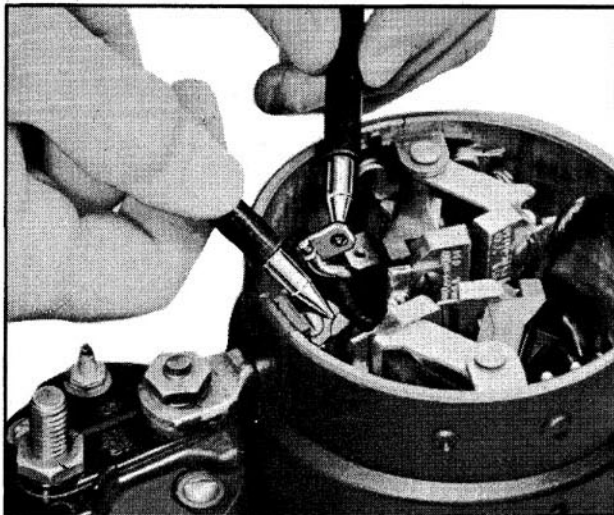

Fig. 13-56 Checking Shunt Coil for Open
- d. Using a 110-volt test lamp, place one lead on each end of the shunt coil or coils. (Fig. 13-56) Disconnect the shunt coil grounds before this check is made. If the lamp does not light, the shunt coil is open and will require replacement.